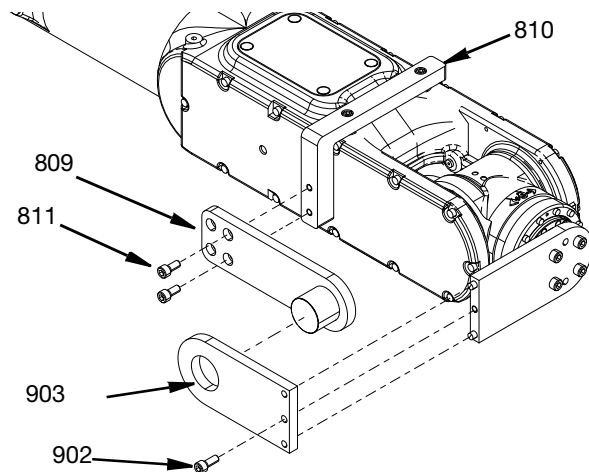

FIG. 14
3. Attach anti rotation axis plate (809) to the Kawasaki 10 kg anti rotation bracket (810) with M6 x 14 SCH cap screws (811) using the two front holes as shown in FIG. 14. Do not tighten screws.
5. After parts are assembled, Torque M5 x 12 screws (812) to 57.5 in-lbs (6.5 N•m) and M6 x 14 SHC cap screws (811) to Torque to 98.2 in-lbs (11.1 N•m). See FIG. 14.